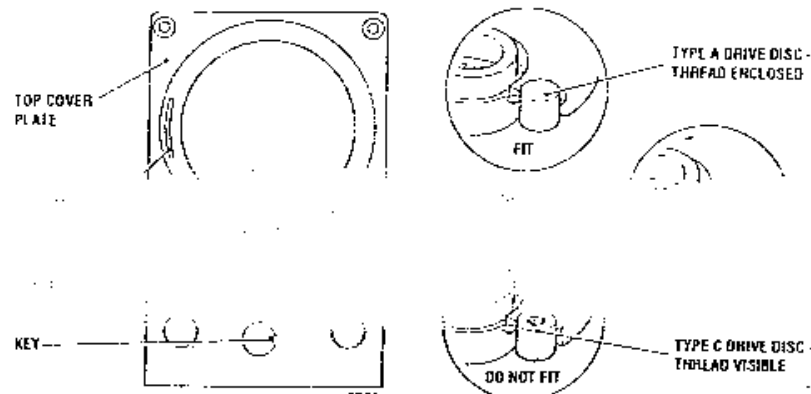

Fig. 3.15 Top Plate And Drive Disc Identification
Note: When fitting the top cover plate (12), ensure that it is of the latest specification with the 15 deg. angle at the stop position as shown in Fig. 3.15
1. Grease the new springs (51) with fluorinated grease and fit the springs (51) and washers (84) onto each interlock rod (81) and (82).
2. Fit both interlock rods through the interlock block (42) and into the new interlock bush (83) and secure with the retaining screws (80). Torque tighten the retaining screws to 2 Nm. Ensure that the short interlock rod (82) is fitted to the left of the block, as viewed from the front.
3. Fit a new seal (75) into the interlock block, fit a new 'O' ring (73) to a new filter (74), and then fit the filter (74) in position in the interlock block.
4. Invert the interlock block assembly and fit two new seals (43) and one new large seal (44) to the interlock block.
5. Lightly smear a new quad ring seal (45) with fluorinated grease and fit it to the bore of the interlock block, using tool Part No. 2802-8061-000.
6. Ensure that the mating faces of the rotary valve (49) and the sump cover are clean. Place the rotary valve in position on the sump cover with the hole facing the rear of the vaporizer at the 12 o'clock position. Fit a new Fluon washer (48) on the valve stem followed by compression spring (47) and new thrust washer (46), ensuring that the small outside diameter of the thrust washer is uppermost.
7. Using a mandrel tool Part No. 2802-8013-000, fit the interlock block over the rotary valve. Torque tighten the four interlock block securing screws (52) to the sump cover diametrically opposite in turn to 2.6 Nm. Remove the mandrel. Torque the four securing screws (52) a second time to 2.6 Nm a second time.
8. Insert the two screws (53) into the interlock block so that they hang loosely and can be used later to secure the transfer manifold.
9. Fit one new spring (65) and a seal housing (66) onto each spindle (86). Apply fluorinated grease to the new 'O' rings (69) and fit one onto each spindle of the platform assembly. Ensure that the 'O' rings are fitted into the seal housings and each housing is fitted to the spindle.
10. Place a new interlock collar spring (54) into position ensuring that one end is fitted into the hole in the interlock block.
- a) The keyway in the spindle (79) faces left as viewed from the top and front
- b) The end of the locking collar spring (54) locates in rear slot of locking collar (78).
- c) The lug of the locking collar (78) locates in front of the stop pin (68)
13. Place the pivot pin (56) into the hole of a new interlock plunger (59) and then into the hole of bell crank (63). Secure in place with a new circlip (60) using interlock circlip applicator Part No. 2802-8045-000.
14. Place a new roller (77) onto the stepped screw (62), fit it to the bell crank (63) and torque tighten to 0.6 Nm. Ensure that the roller revolves freely.
15. Lightly grease the bore, keyway and slots of the platform assembly (85) with fluorinated grease and fit the platform assembly over the spindle. Ensure that the slot is to the left of the interlock block when viewed from the front.
16. Insert the two pins of the lever platform (56) into the keyways of the platform. Fit two new bearing bushes (57) onto the central pins of the lever. Do not drop the assembly into position in the interlock block at this stage.
17. Place two new bearing bushes (57) onto the pivot pins of the bell crank (63) and tightly coat the slots of the bell crank (63) with fluorinated grease.
18. Carefully locate the interlock plunger (59) into the interlock bush (83) and at the same time position the keyways of the bell crank (63) onto the pins of the lever platform (56).
19. Carefully position all four bearing bushes (57) into the slots in the interlock block so that the counter-bored recesses are uppermost. Secure with four screws (76). Torque tighten to 0.6 Nm.
20. Referring to Fig. 3.15, either refit the drive disc (64) identified as Type A into the interlock block or fit a new drive disc identified as Type B into the interlock block. Ensure that the drive disc fits into the 'T' of the rotary valve.